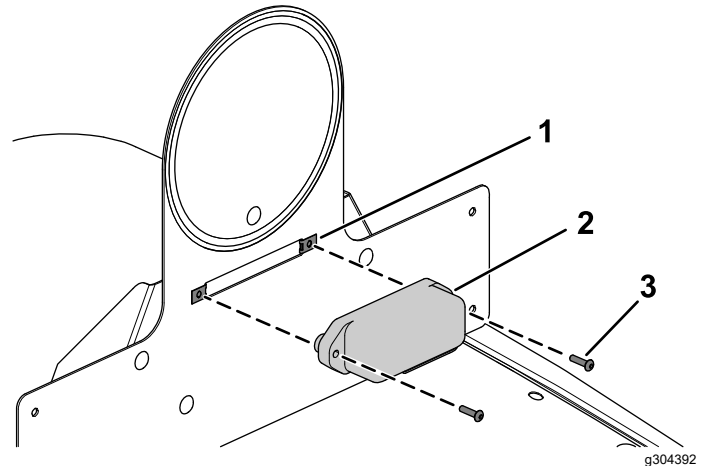

Figure 39
- Connect the wire harness to the plate light (Figure 39).
- Secure the plate light to the assembled speed-plate mount using the 2 speed nuts installed in Figure 26 and 2 button-head bolts (#10 x 3/4 inch) as shown in Figure 39.